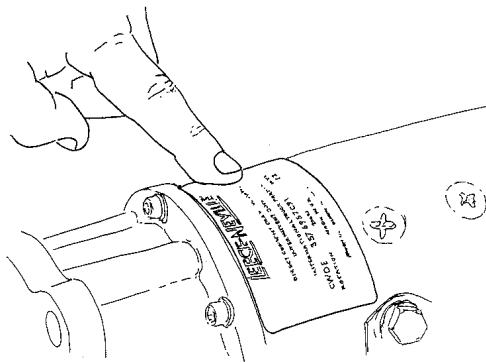

Figure 5 - Attach New ID Label
9. Remove the starter identification label and replace with a new label from the service kit. Refer to Table 2 for the correct label to use for the starter motor being serviced (Figure 5). Discard the unused new label in the kit.